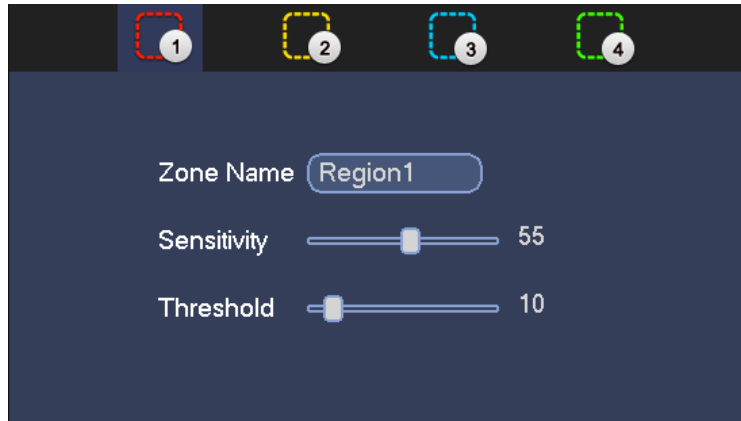

Figure 3-53
- c) Click Region Click select button, the interface is shown as in Figure 3-53. Here you can set motion detection zone. There are four zones for you to set. Please select a zone first and then left drag the mouse to select a zone. The corresponding color zone displays different detection zone. You can click Fn button to switch between the arm mode and disarm mode. In arm mode, you can click the direction buttons to move the green rectangle to set the motion detection zone. After you completed the setup, please click ENTER button to exit current setup. Do remember click save button to save current setup. If you click ESC button to exit the region setup interface system will not save your zone setup.